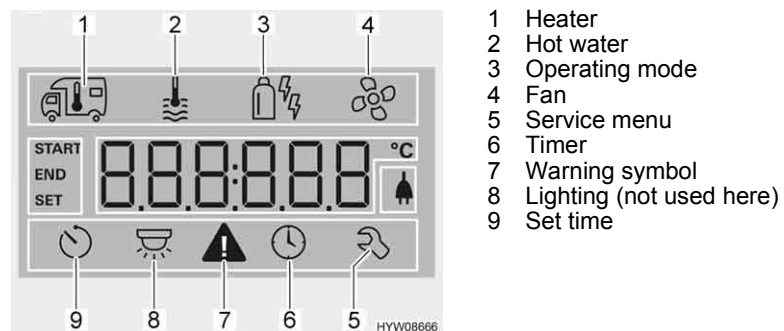

Fig. 186 Display
- Turn rotary push button (Fig. 165,6) until the hot water menu symbol (Fig. 186,2) flashes.